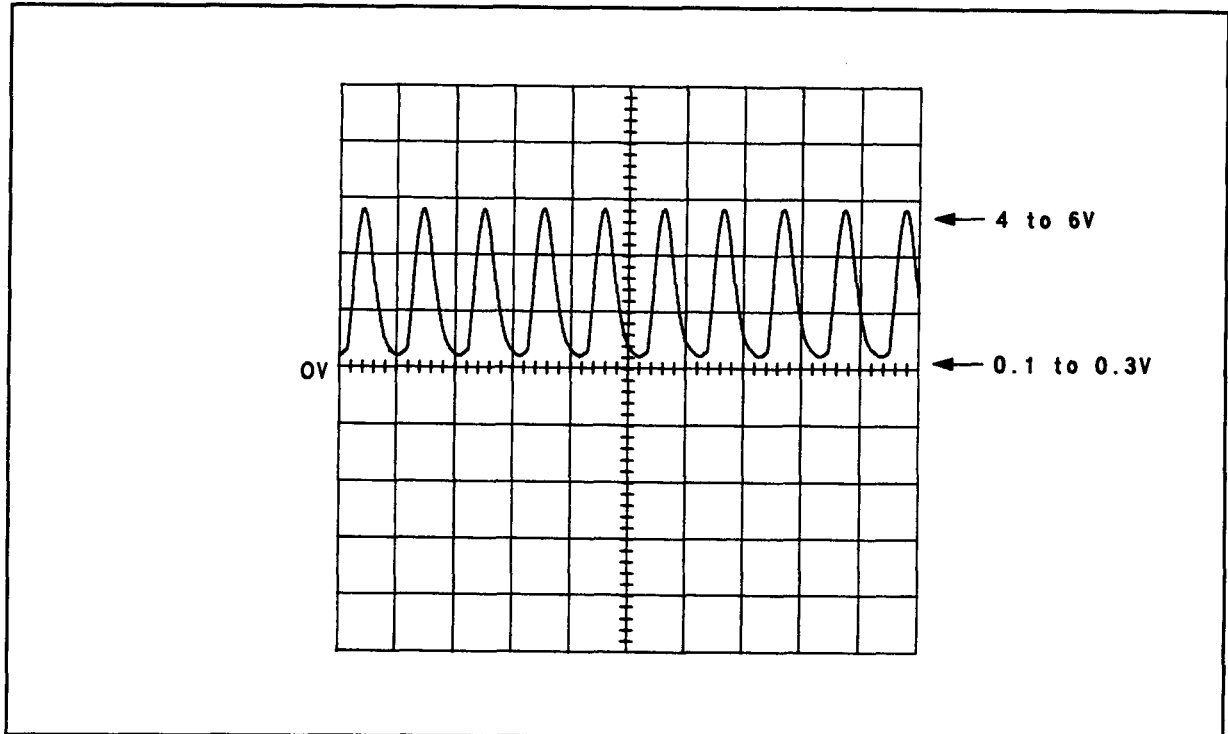

Figure 8F-48. Waveform for $\sqrt{2}$ Step 8
- Set the oscilloscope to dc coupled and connect it to the collector of Q16. The 10.1 MHz waveform should be as in Figure 8F-48.